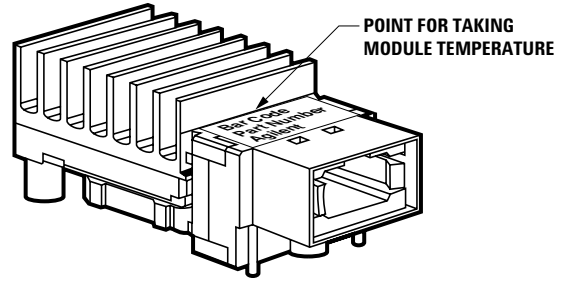

Figure 2. Case temperature measurement
2. Case Temperature is measured as indicated in Figure 2.